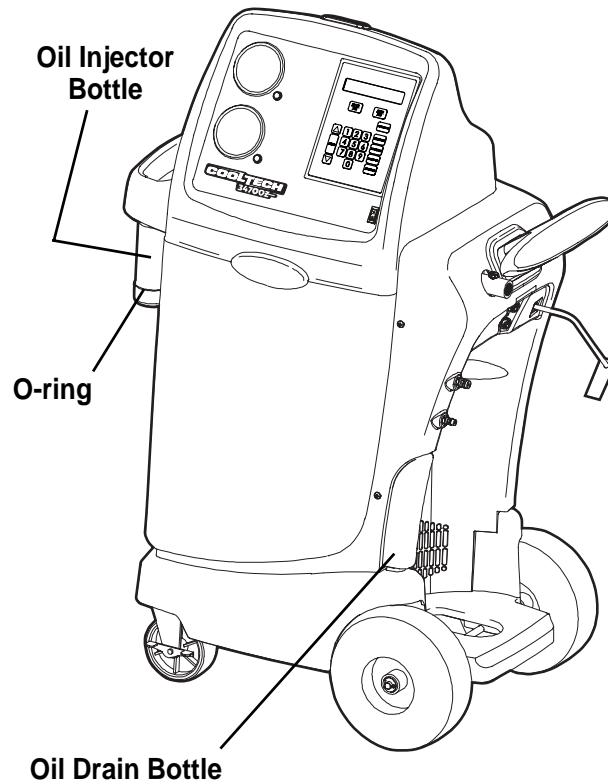

Figure 5
2. Check the oil drain bottle to determine the amount of oil that was removed. See Figure 5.